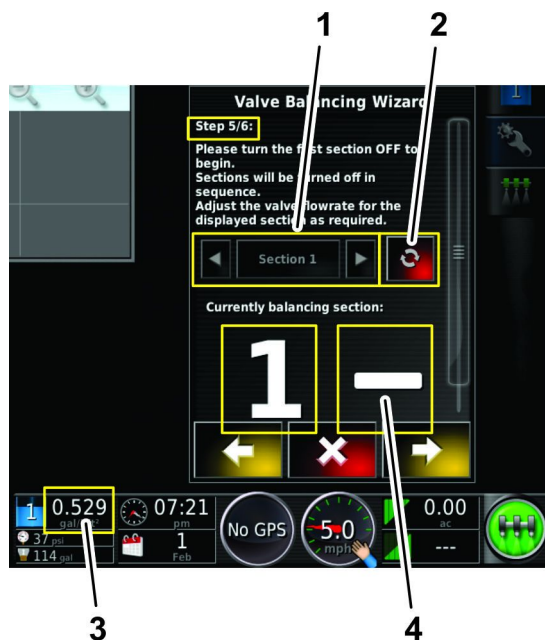

Figure 145
- The application rate for the section valve is too high (Figure 145).
- A. Press the section On/Off icon (Figure 145) to shut off the section valve (red).